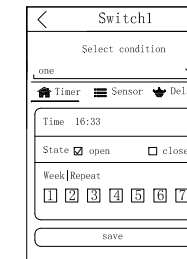

Fig.6
- b. Press Add task to access to the interface as shown in Fig. 6. User can add timer, sensor control and delay off control. Press Save to save all the settings.